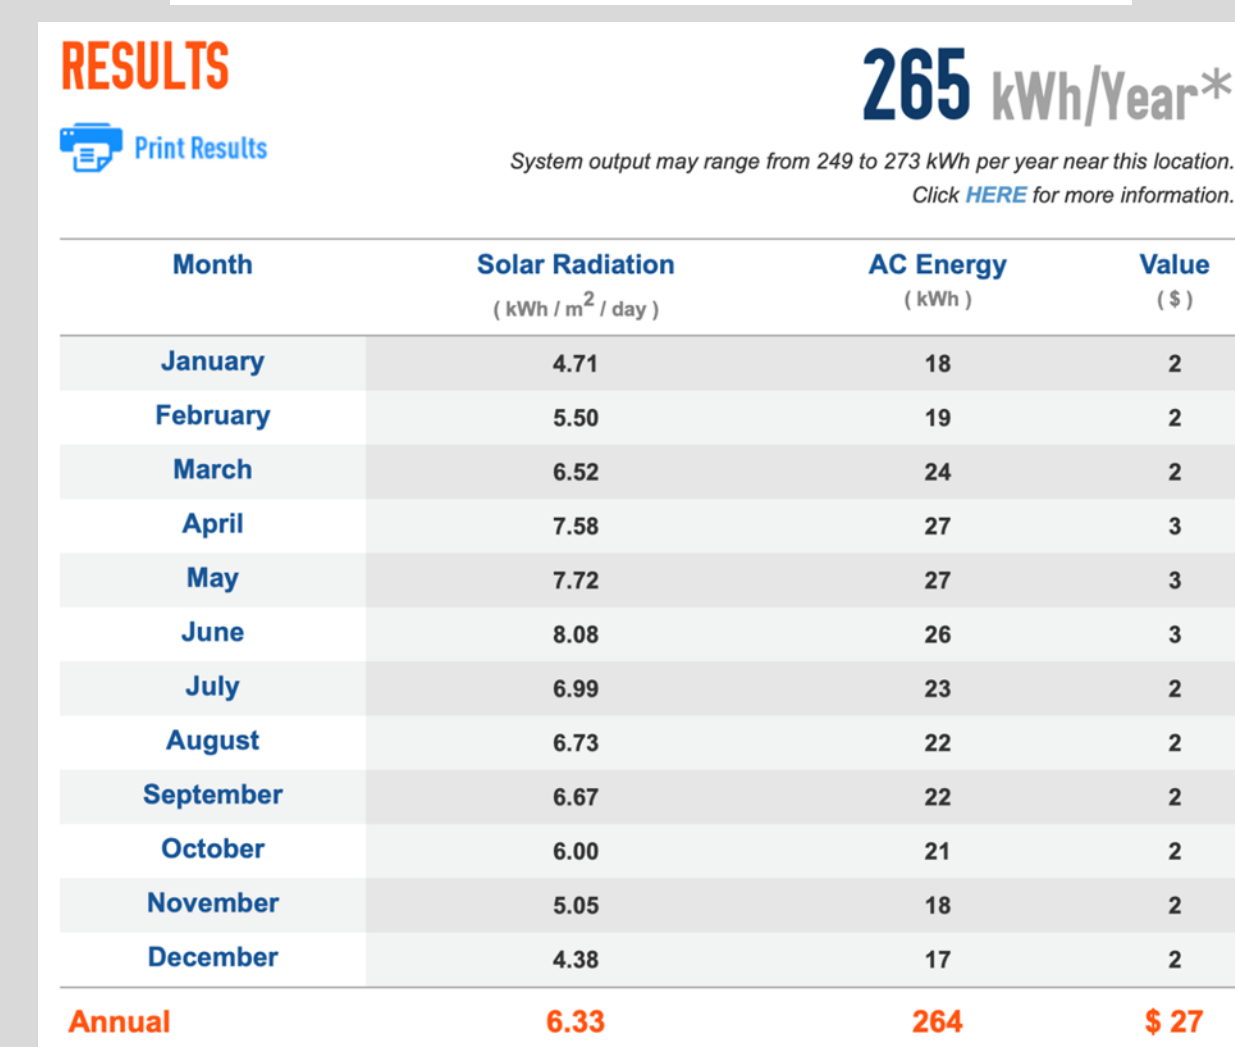

Figure 2: AC Energy Month Production
- AC energy production (Figure 2) greater than load